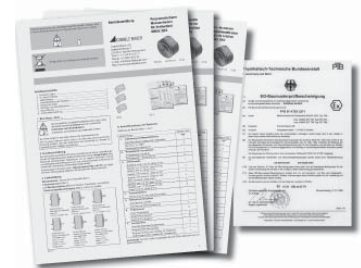

Fig. 3
**1 ea. Operating Instructions** (Fig. 3) in English, French, German
**1 Type Examination Certificate** (Fig. 3), only for Ex version devices